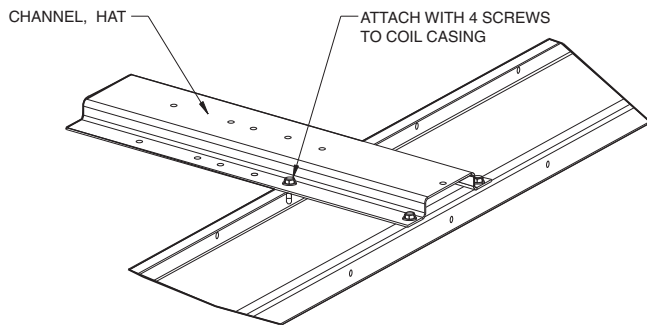

Fig. 175 — Spacer (Hat Channel)
11. Remove the spacer (hat channel) secured to the top center of the lower coil casing (see Fig. 175) and set aside.